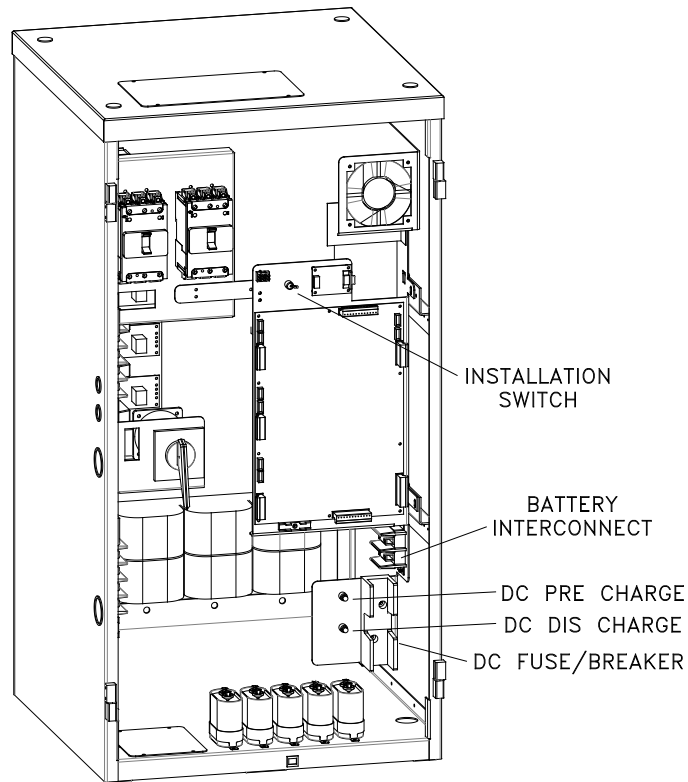

Figure 7.1 DC Battery Circuit Breaker, Pre-charge Switch, Discharge Switch & Installation Switch (3.2kW – 10kW)
2. Press and hold the DC Pre-charge switch located on the inverter chassis (see Figure 7.1, 7.2, 7.3, 7.4) for 30 seconds, and then switch the DC battery circuit breaker(s) to the (ON) position. If a large flash occurs or if the circuit breaker trips, the batteries are not connected properly. Call service immediately.